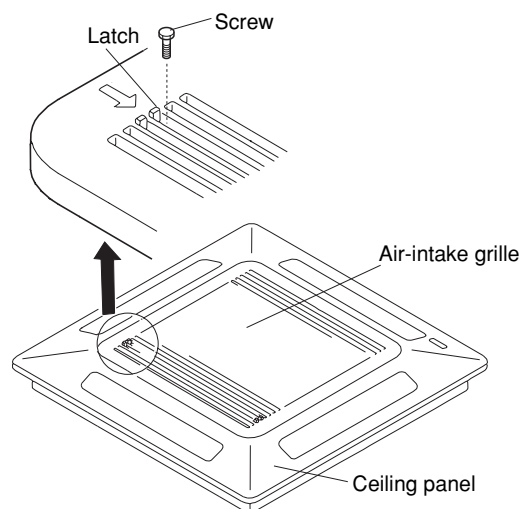

Fig. 3-13
- (1) Remove the air-intake grille and air filter from the ceiling panel. (Figs. 3-13 and 3-14)
- (a) Remove the 2 screws on the latch of the air-intake grille. (Fig. 3-13)
- (b) Press on the 2 latches of the air-intake grille with your thumbs in the direction of the arrow to open the grille. (Fig. 3-13)